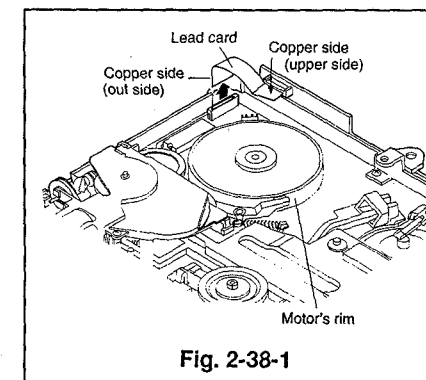
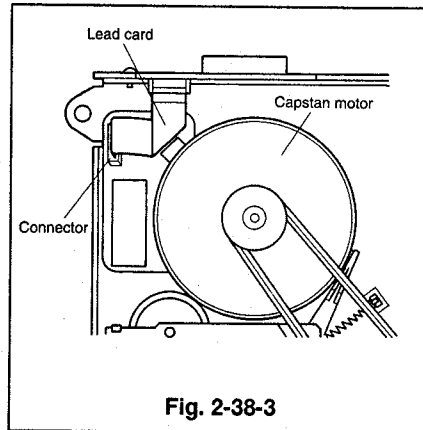

Fig. 2-38-1
Fig. 2-38-3
- 2 Disconnect the lead card, connected to the PCB of the capstan motor and the PCB-HA/AUDIO. (Refer to Fig. 2-38-1.)
- ③ Bend the new lead card as shown in Fig. 2-38-3 and connect it to the connectors of the PCB of the capstan motor and the PCB-HA/AUDIO so that copper side appears as shown in Fig. 2-38-1. Take care not to touch the rotor of the capstan motor.
- ④ Install the reel belt.